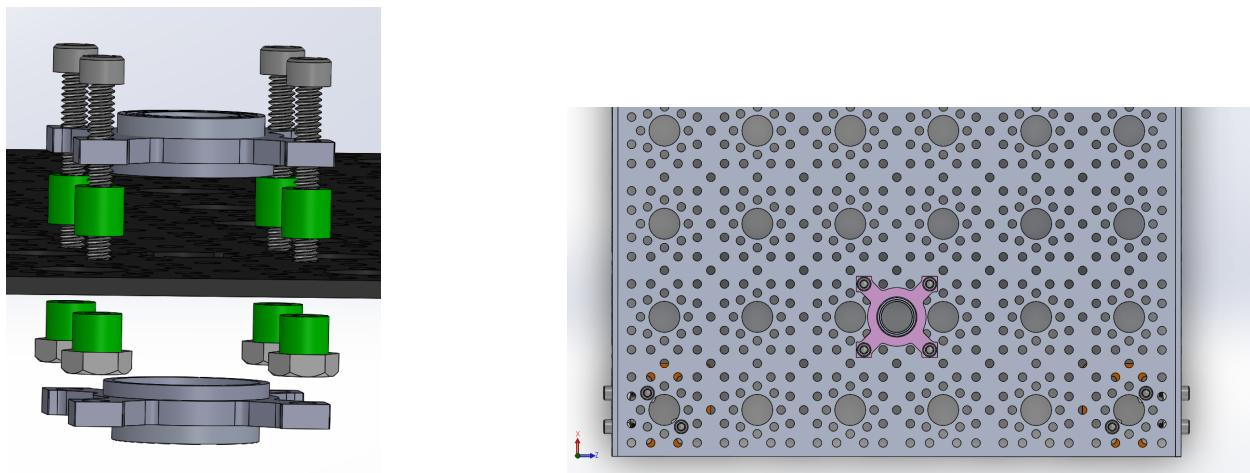

Figure 6: Mounting the pillow blocks
- Mount the pillow bearing blocks:** Using spacers **T1**, screws **B6**, and hex nut **B11**, mount the pillow blocks **S11** to the top of the body over the hole in the aluminum plate that you drilled earlier as shown in Figure 6.